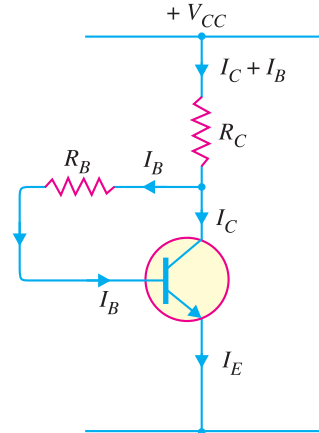

Fig. 9.19
In this method, one end of R_B is connected to the base and the other end to the collector as shown in Fig. 9.19. Here, the required zero signal base current is determined *not* by V_{CC} but by the collector-base voltage V_{CB} . It is clear that V_{CB} forward biases the base-emitter junction and hence base current I_B flows through R_B . This causes the zero signal collector current to flow in the circuit.
Circuit analysis. The required value of R_B needed to give the zero signal current I_C can be determined as follows. Referring to Fig. 9.19,
Note. It can be easily proved (See ****example 9.17**) that Q-point values (I_C and V_{CE}) for the circuit shown in Fig. 9.19 are given by ;
** Put $R_E = 0$ for the expression of I_C in example 9.17. It is because in the present circuit (Fig. 9.19), there is no R_E .